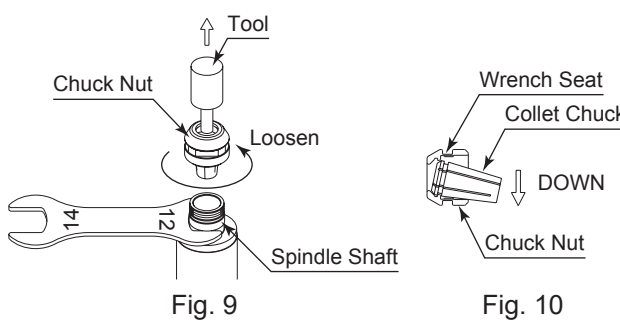

Fig. 9
- ① Remove the tool according to the section " 7. CHANGING THE TOOL " procedure above and remove chuck nut assembly (Fig. 9).